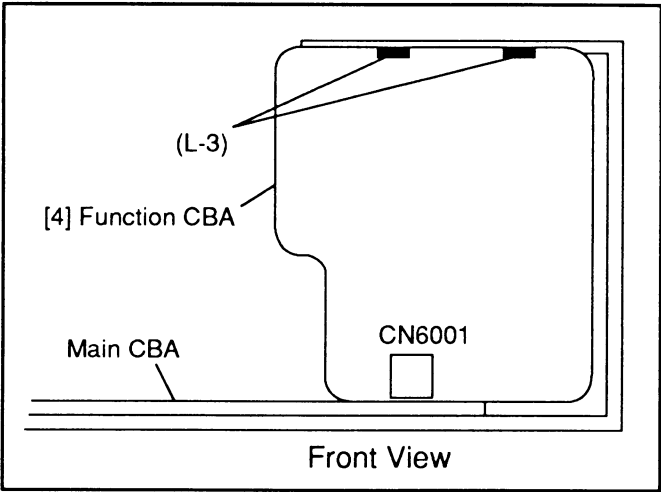

Fig. 5
- 3. **CAUTION** Locking Tabs (L-3) are fragile. Be careful not to break them. Turn the Function CBA to the front side while pushing up Locking Tabs (L-3). Connector (CN6001) works like a hinge and allows the Function CBA to turn. Be extremely careful not break these Locking Tabs (L-3). Then lift the Function CBA up to remove Connector (CN6001). (Fig. 5)